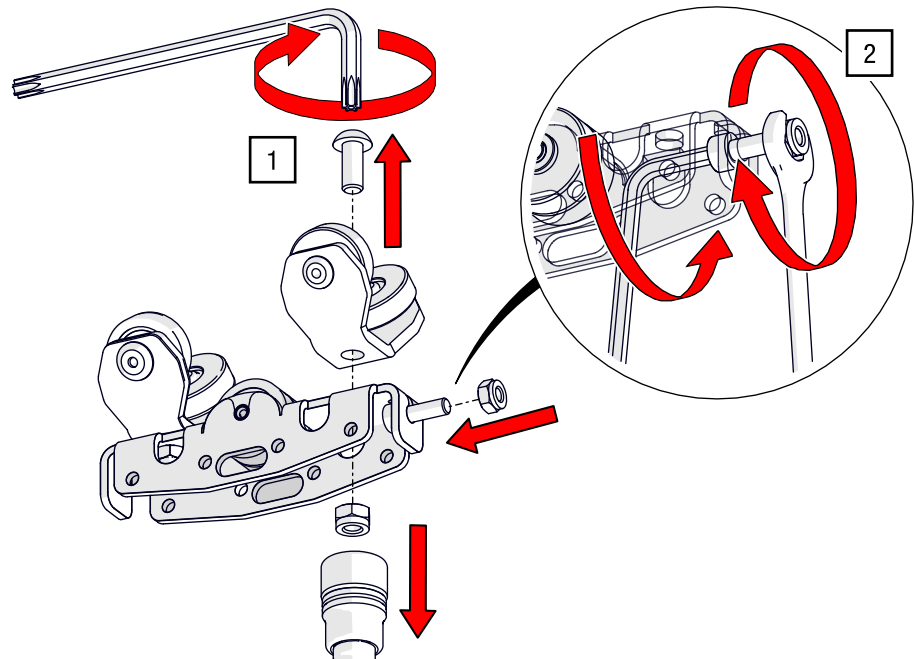

Fig. 64: Master runner with add-on brake – Mounting the screw for magnetic coupling
1. Loosen the screw connection of the front wheel mount using a hex socket wrench AF 8 and a TORX®-key T25 (see Fig. 64).
2. Remove the rubber buffer, tighten the screw of the magnet catch plate and the hexagon nut using an open-end wrench AF 4 and a hex key AF 3 to 3 Nm (see Fig. 64).